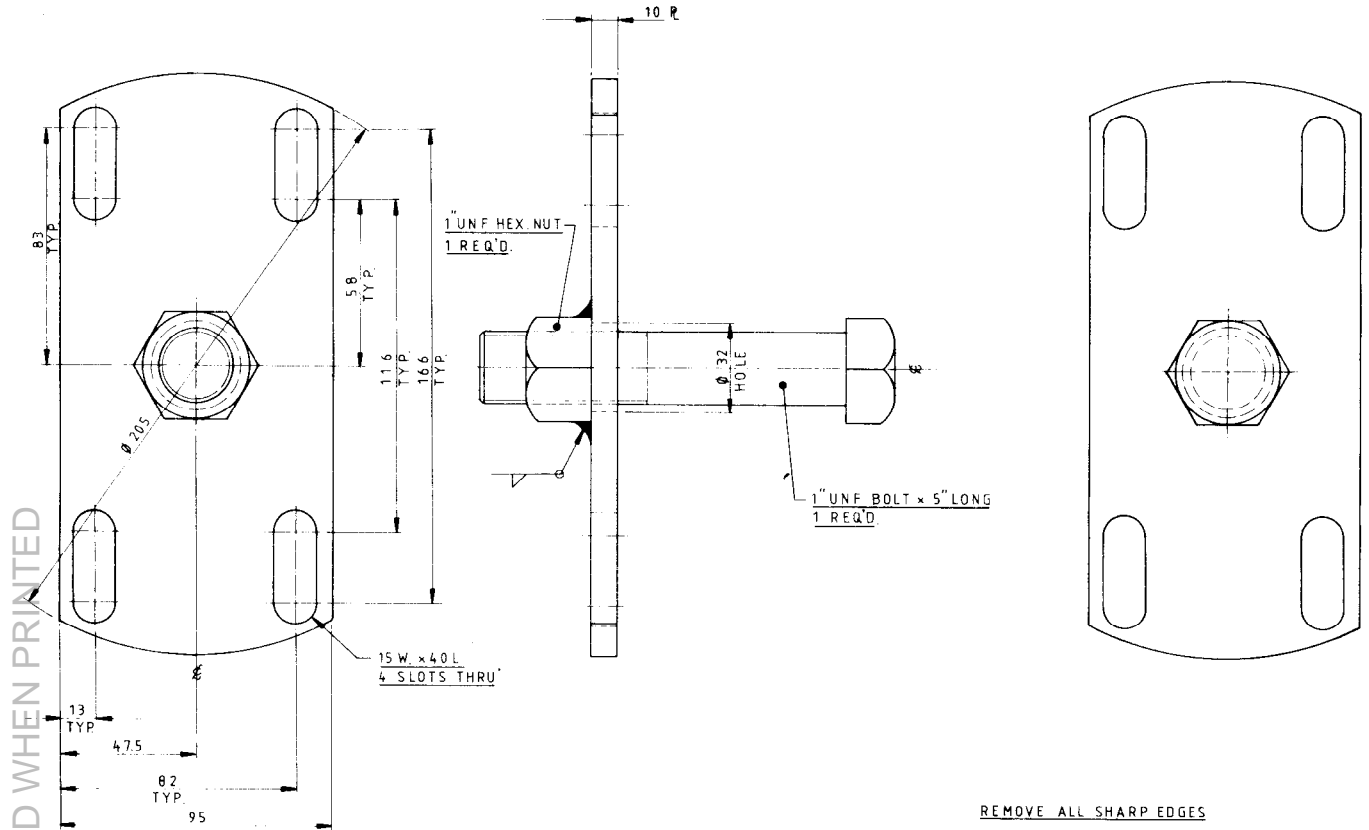

FIG 1 - YOKE PULLER
3. The yoke puller and seal installer are to be manufactured as detailed in drawings at Fig 1 and 2.